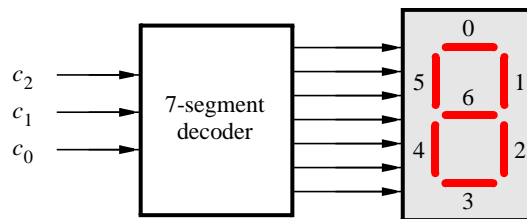

Figure 6. A 7-segment decoder.
Figure 6 shows a 7-segment decoder module that has the three-bit input  $c_2c_1c_0$ . This decoder produces seven outputs that are used to display a character on a 7-segment display. Table 1 lists the characters that should be displayed for each valuation of  $c_2c_1c_0$ . To keep the design simple, only four characters are included in the table (plus the 'blank' character, which is selected for codes 100 – 111).
2. Create a VHDL entity for the 7-segment decoder. Connect the  $c_2c_1c_0$  inputs to switches  $SW_{2-0}$ , and connect the outputs of the decoder to the *HEX0* display on the DE2 board. The segments in this display are called  $HEX0_0, HEX0_1, \dots, HEX0_6$ , corresponding to Figure 6. You should declare the 7-bit port